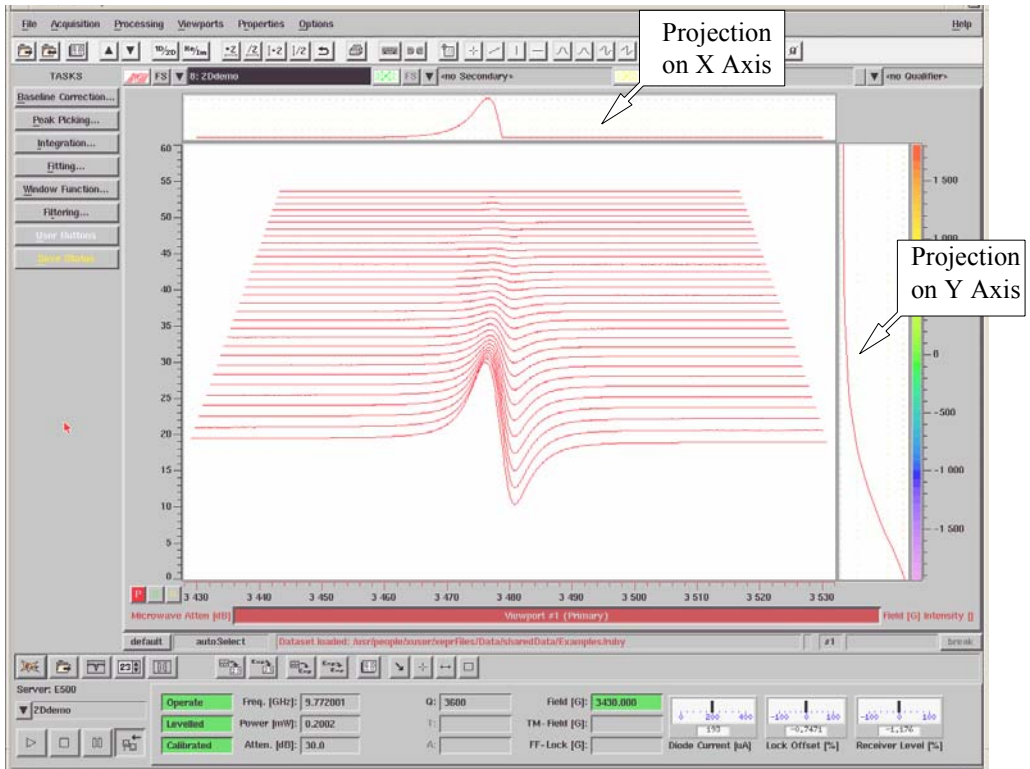
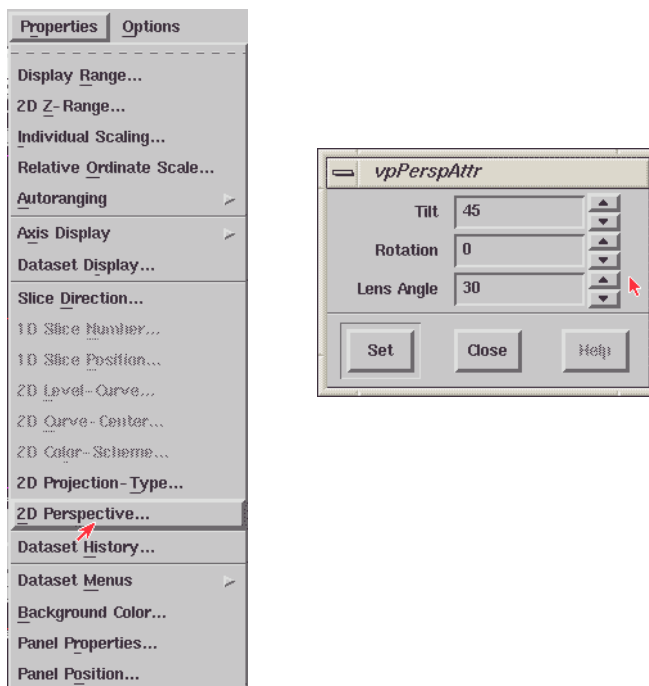

Figure 5-50 A 2D transparent display.
Figure 5-51 Changing the 2D Perspective.
9. **Display the data as a 2D Transparent Plot.** Click on the Property menu of the Primary section and then select transparent as the Display Type. The 2D spectrum will be displayed as in Figure 5-50. You can see all the slices as well as the projections on the X and Y axes. You can tilt, rotate, and adjust the lens angle of the 2D transparent display. Click Properties in the menu bar and then click on 2D Perspective. (See Figure 5-51.)
A dialog box appears allowing you to adjust the tilt angle, rotation angle, and lens angle interactively. After you have optimized the display angles click the **Set** button. (See Figure 5-51.)